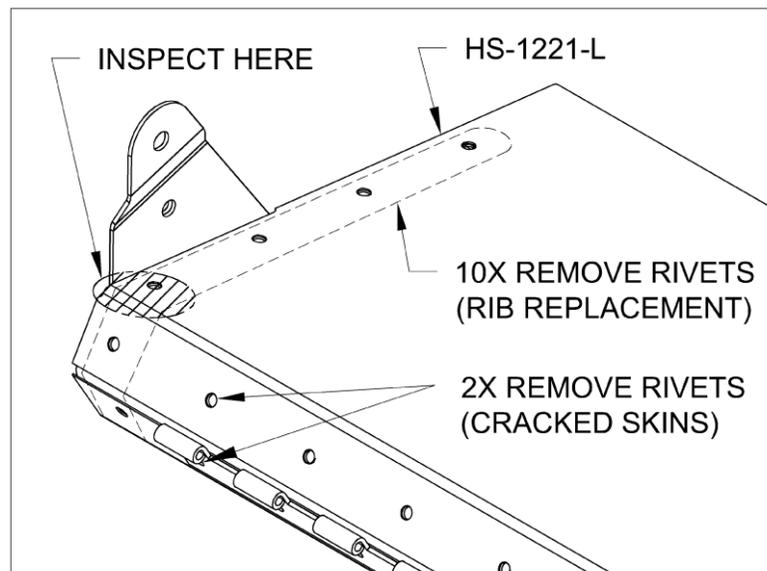

FIGURE 1: INSPECT FOR CRACKS
Step 1: Inspect the HS-1221-L/R AST Skins upper and lower surfaces for cracks in the area depicted in Figure 1. If no cracks are found skip to Step 4 or re-inspect during next annual condition inspection.
Step 4 (Rib Replacement Only): Remove the 10 rivets called out in Figure 1. For more instruction on removing rivets see Section 5. Remove the Horn Assembly(rib & horn).
Step 5 (Cracked Skins): Remove all rivets called out in Figure 1. Remove the Horn Assembly(rib & horn).